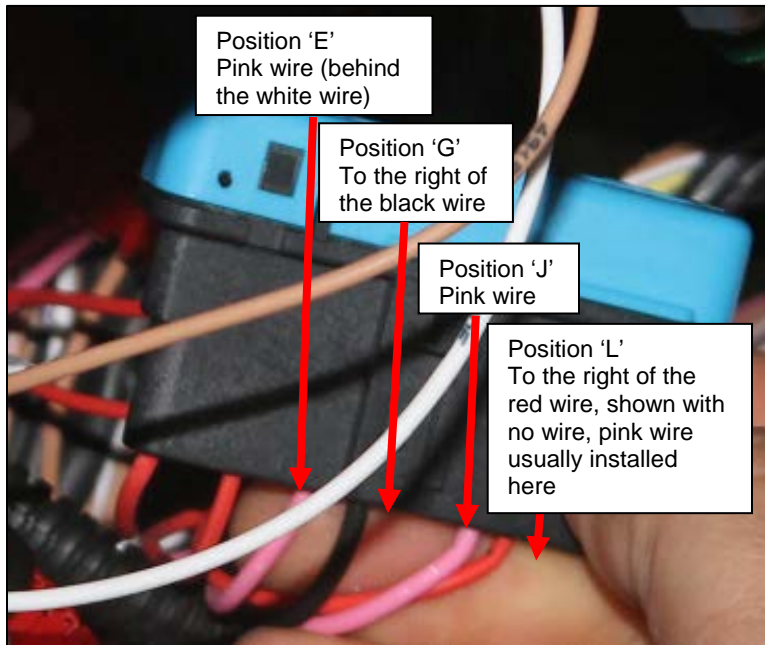

Figure 6: Location of Positions E, G, J, and L
5. Locate Position E on the plug. See **Figure 6**.